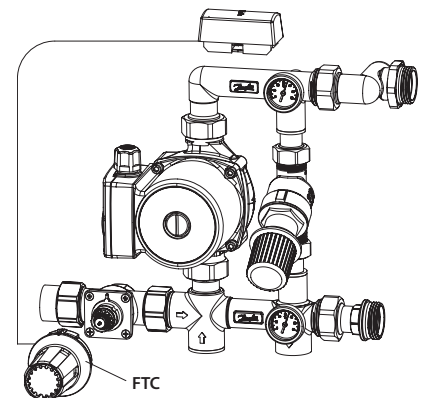

Fig 3.
6. FTC thermostatic sensor is in package. Mount it on the valve according to the enclosed instruction, as shown in Fig. 3.